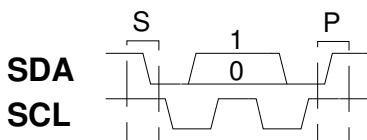

Figure 4. I²C[®] bus protocol definitions
Figure 4 shows the start (S) and stop (P) bits and a data bit. Data must be held stable at the SDA pin
Each serial bus operation, like write, starts with the start (S) bit (see figure 4). After start (S) the MAS6512 device address with write bit (AW, see table 10) is sent followed by an Acknowledge (A). After this the Measurement control register address (see table 1) is sent and followed by an
Acknowledge (A). Next the Measurement control register data (DC, see table 3) is written and followed by an Acknowledge (A). Finally the serial bus operation is ended with stop (P) command (see figure 4).